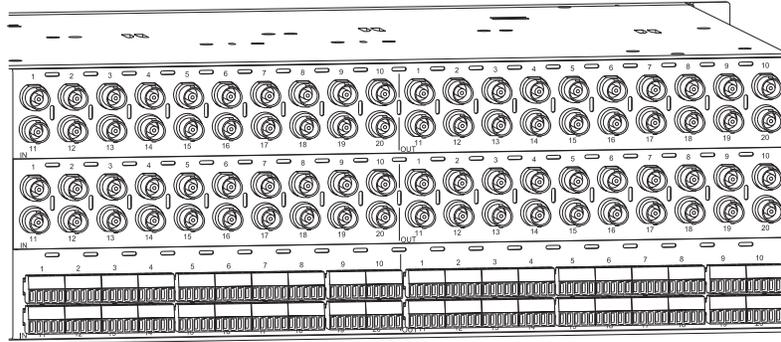
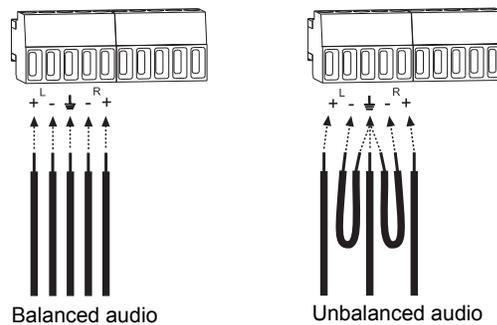

FIG. 51 A stereo audio board (shown with two video boards)
FIG. 52 Balanced and unbalanced stereo audio wiring
2. Insert the wires (FIG. 51) for wire placement for balanced and unbalanced audio) and firmly re-tighten the clamps to make proper connections.
Source and destination devices will require either balanced (differential) or unbalanced (single-ended) connections. FIG. 52 illustrates the options for wiring between the sources and the input connectors and between the output connectors and the destinations. More than one of these options can be used in the same system. For balanced and unbalanced wiring details, see FIG. 51.